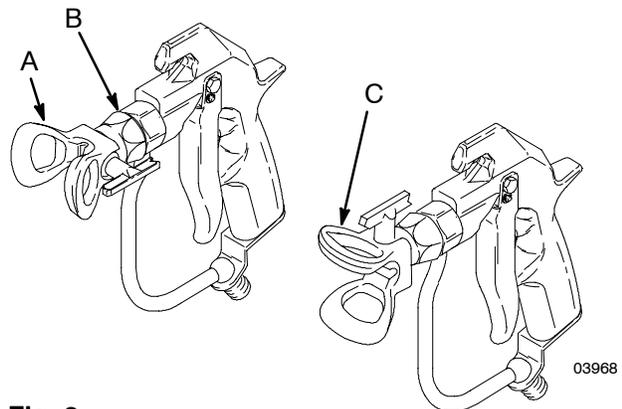

Fig. 3 _____ 03968
1. To adjust the spray pattern direction, relieve pressure. Loosen the tip guard retaining nut (B). Turn the tip guard/tip groove horizontally (C) for a horizontal pattern and vertically (A) for a vertical pattern. Tighten the nut. See Fig. 3.